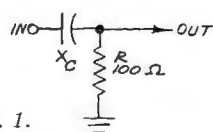

Fig. 1.
RC Coupling. When resistor-capacitor (RC) coupling is used between the stages of an amplifier, the output voltage appears across the resistor, as shown in Fig. 1. The reactance of the capacitor (X_C), a function of frequency, determines what percentage of the input voltage to the RC network appears across the output.
When the reactance of the capacitor is low in comparison to the resistance, most of the output voltage appears across the resistor. You can prove this with a few simple calculations. For example, what is the input impedance for the RC network shown in Fig. 1 when X_C is 1 ohm and R is 100 ohms.